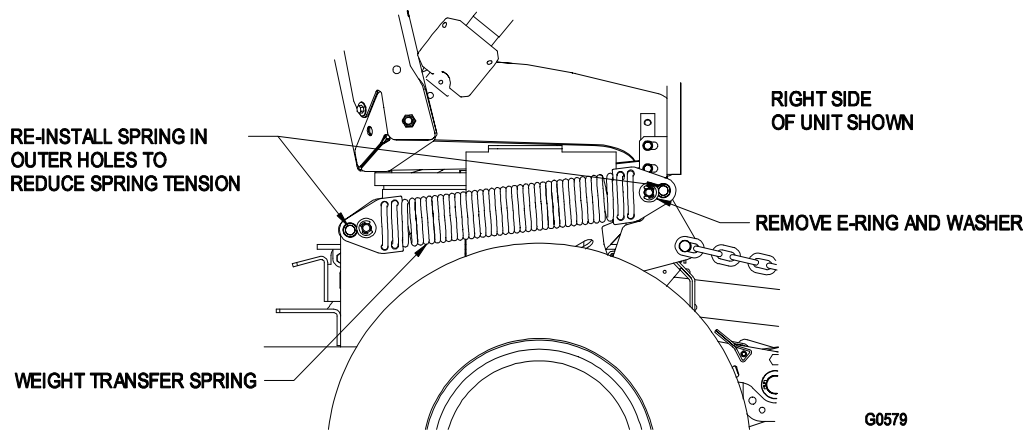

FIGURE 16
- e) Remove the retaining ring and washer at either end of the weight transfer spring that retains it to the transfer bellcrank pins and/or weight transfer spring anchor pins. See Figure 16.